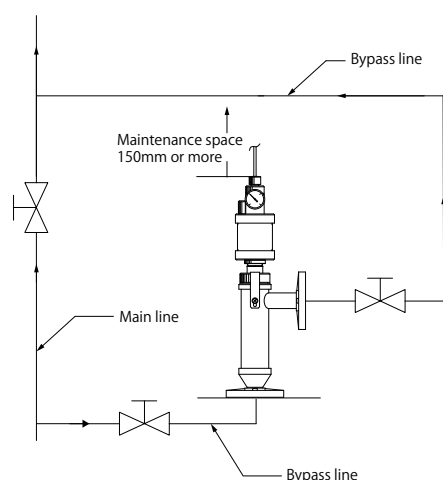

Fig.1
- Always install a valve on the inflow side. See [Fig.1].